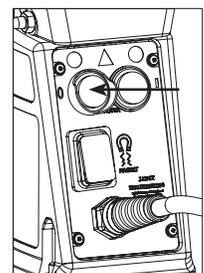

Figure 8
2. Start drill motor by depressing green motor "ON" button. **(Figure 8)**